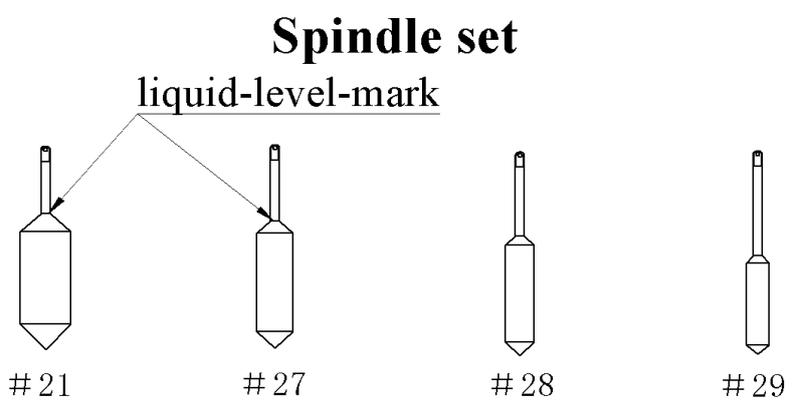

Figure 3
4.5.2.8 Use special forceps will pipe from heating furnace to remove and wash, pour 10 ~ 20mL after the sample, by turning the revolving, the spindle immersed in liquid samples and to the spindle liquid-level-mark, as shown in Figure 3, and then covered with insulation cover.